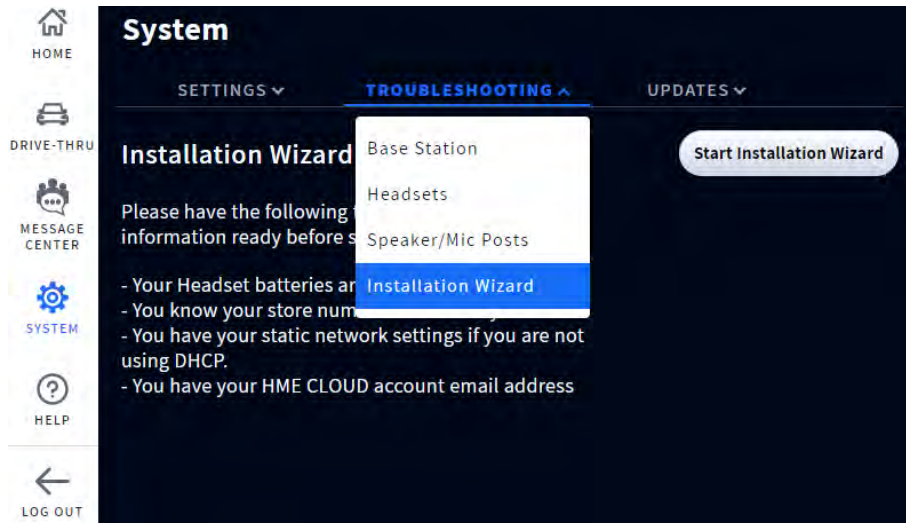

Fig. 3.4
**Note:** If you accidentally exit the Installation Wizard and need to return to it. LOG IN to the system, go to SYSTEM, then the TROUBLESHOOTING tab and select "Installation Wizard" from the drop-down list. Tap the "Start Installation Wizard" button to begin (see Fig. 3.4).